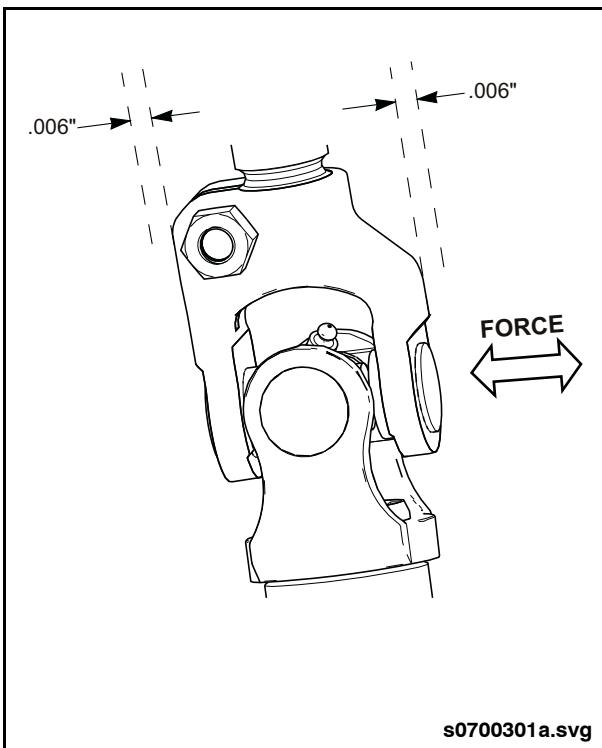

Fig. PM-9: Steering Driveshaft U-Joint Inspection
- a. Restrain the end yoke from moving and apply lateral side to side force on each U-joint. Note the total back and forth movement of the U-joint cross within the bearing cups. Maximum allowable end play is 0.012" (0.30 mm). See "Fig. PM-9: Steering Driveshaft U-Joint Inspection" on page 33.